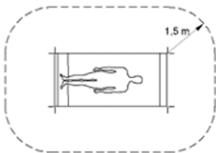

Fig. 5
To turn off the Wall Charger CW1 (1) just disconnect the power supply (4) from the mains supply. The Wall Charger CW1 (1) is intended for setting up and use in medical areas outside the patient environment (at least 1.5 meters from the patient or patient support pursuant to IEC 60601-1, see Fig. 5).